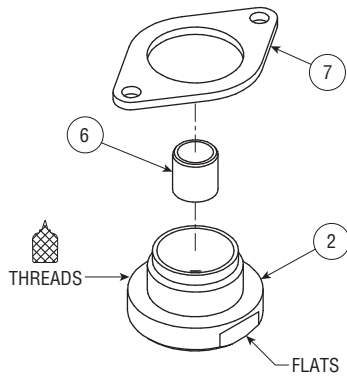

FIGURE 1
1. Place head (2) into vise locating on flats and secure. (see Figure 1)
2. Install bushing (6) into head. (see Figure 1)
3. Apply food grade anti-seize per NSF H1 incidental contact to threads on head (2). (see Figure 1)
4. Slip flange (7) onto threads of head (2). (see Figure 1)